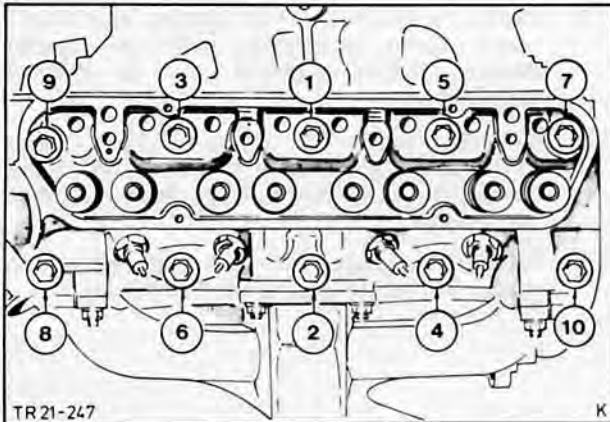

Fig. 134. Cylinder head bolt tightening sequence
20. Retighten cylinder head bolts to specified torque in the sequence shown in Fig. 134, using Special Tool No. 21-034. Retighten bolts securing rocker shaft and recheck valve clearances.